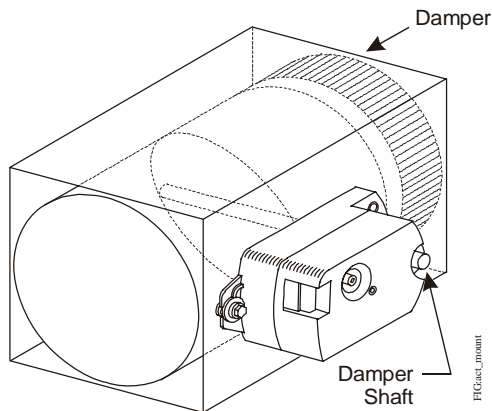

Figure 4: Mounting the Actuator onto the Damper Shaft
3. Make a note of the rotation range and direction, either Clockwise (CW) or Counterclockwise (CCW), required to close the damper.
- Position the actuator onto the damper shaft so that the damper shaft protrudes through the actuator coupler, as illustrated in Figure 4.